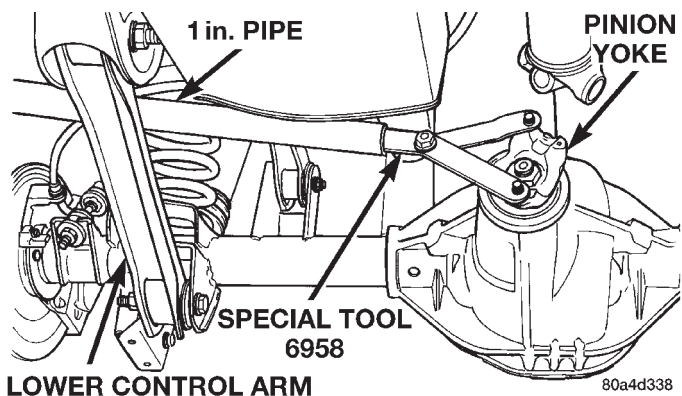

Fig. 16 Pinion Yoke Holder
(1) Raise and support the vehicle.
(2) Remove wheel and tire assemblies.
(3) Remove rear brake rotors and calipers. Refer to Group 5, Brakes, for proper procedures.
(4) Mark the propeller shaft and pinion yoke for installation reference.
(5) Remove the propeller shaft from the yoke.
(6) Rotate the pinion gear a minimum of ten times. Verify that the pinion rotates smoothly.
(7) Measure the amount of torque necessary to rotate the pinion gear with a (in. lbs.) dial-type torque wrench. Record the torque reading for installation reference.
(8) Using a short piece of pipe and Holder 6958 to hold the pinion yoke, remove the pinion nut and washer (Fig. 16).
(8) Remove differential assembly from axle housing.
(9) Using Holder 6958 to hold yoke and a short length of 1 in. pipe, remove the pinion yoke nut and washer (Fig. 16).